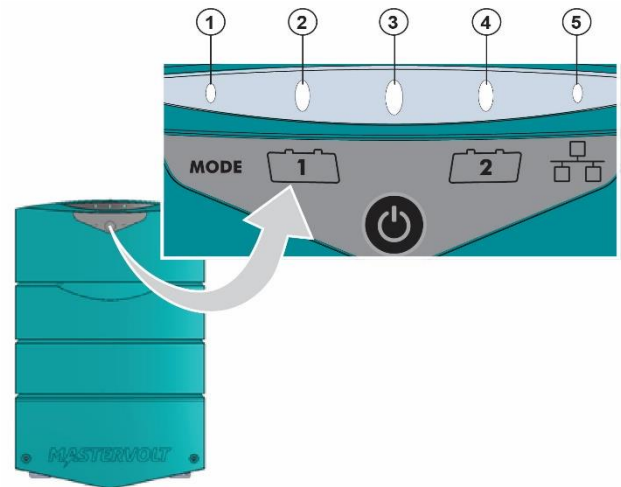

Figure 5: ChargeMaster Plus status LEDs
The ChargeMaster Plus is activated by keeping the ON/OFF button pressed for approximately 3 seconds. The MODE LED (item 1 in Figure 5) will illuminate green. If necessary and if AC power is available, the ChargeMaster Plus will start to charge the batteries.